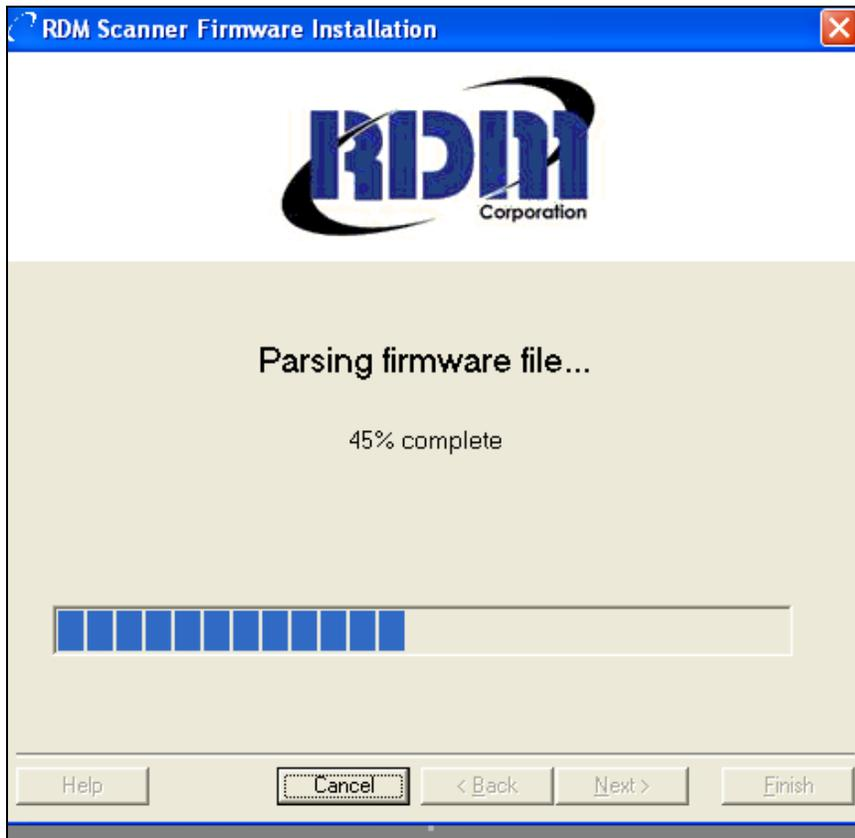

Figure 6.10.10
5. Click 'Next'. The Firmware file is parsed (Figure 6.10.10).